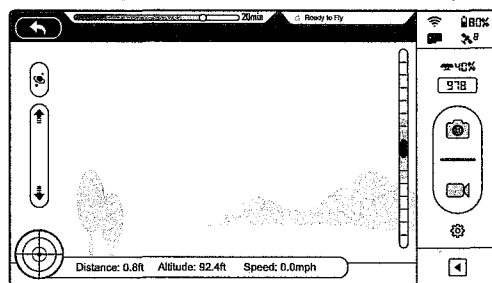

Figure 47
- (5) Tap the “CAMERA” icon and the DJI VISION App will begin a live camera preview (Figure47). This means everything is functioning normally.